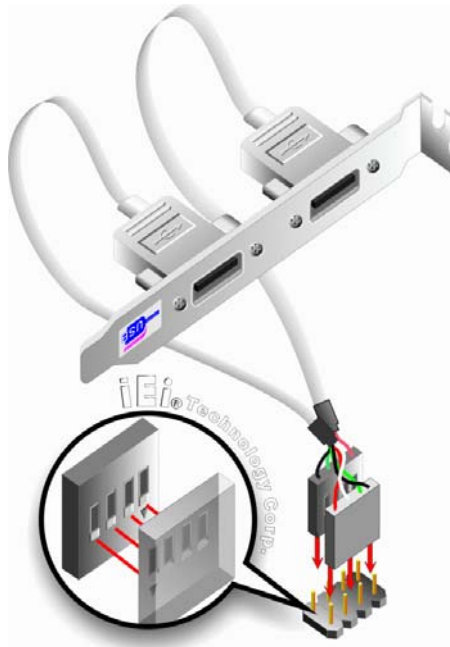

Figure 4-15: Dual USB Cable Connection
Step 7: Insert the cable connectors Once the cable connectors are properly aligned with the USB connectors on the WSB-G41A, connect the cable connectors to the on-board connectors. See **Figure 4-15**.